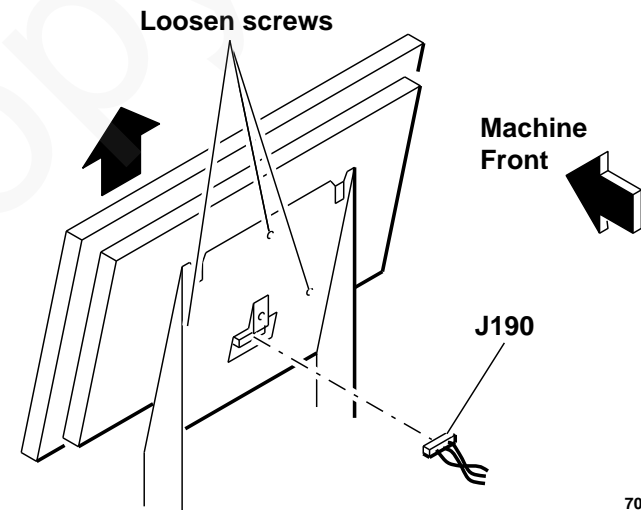

Figure 2. Control panel removal
- d. Loosen three screws securing the control panel to the bracket (Figure 2).